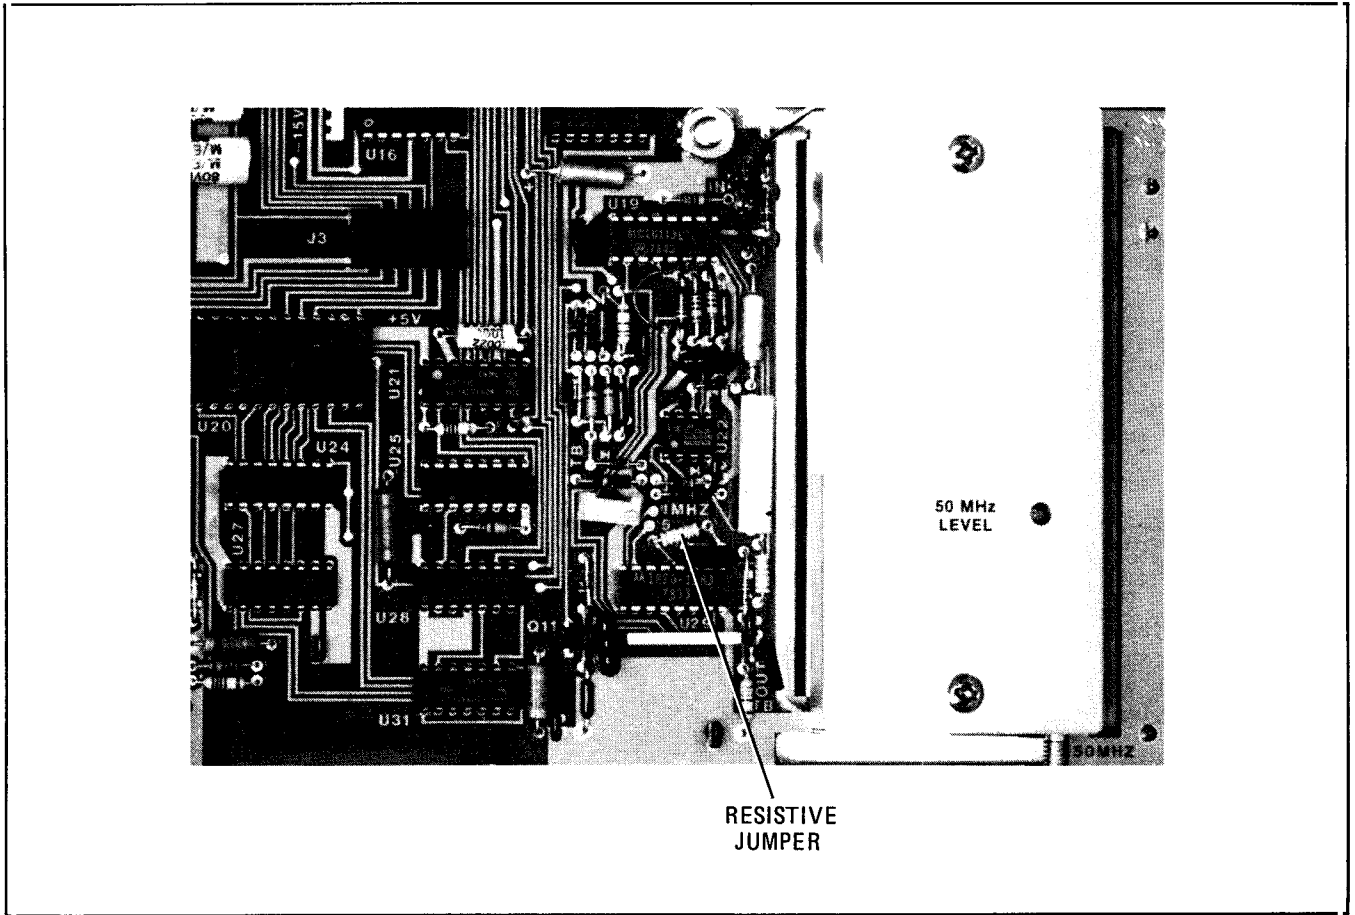

Figure 2-3. Time Base Jumper Location
- b. Locate the time base jumper on the Low Frequency Loop Assembly — A3 (see Figure 2-3).